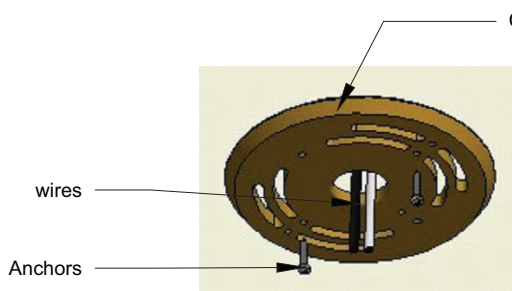

Fig.3
3. Install the anchors into the ceiling. Pull the wires from the junction box thru the hole in the ceiling plate. Slide the ceiling plate on the anchors and secure them. Install the other three ceiling plates. (Fig.3)